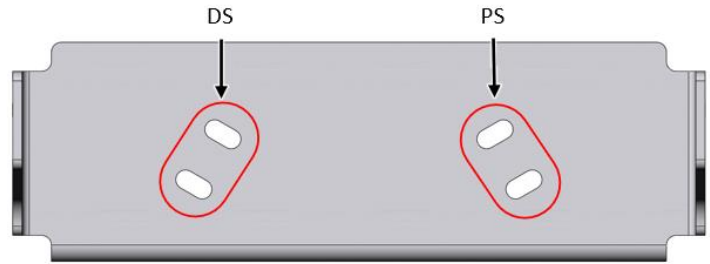
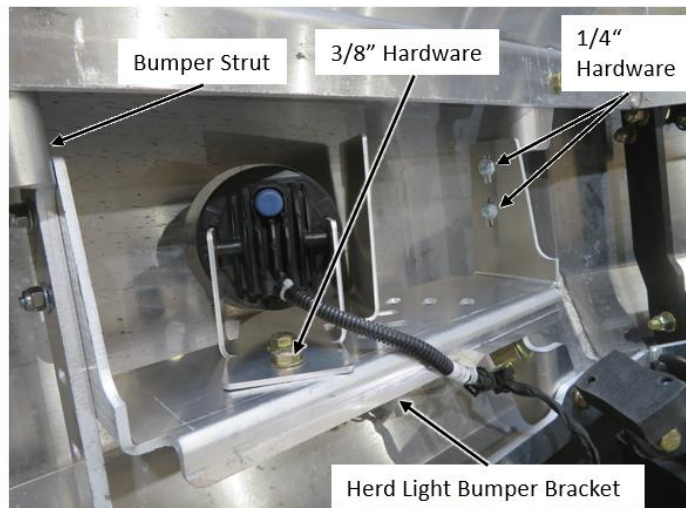

Figure 4b:
Figure 4c:
2. Mount the OEM light – Herd Light Shroud assembly to the Herd Light Bumper bracket's specific holes as shown in Figure 4b. Fasten loosely using the provided 3/8" hardware, see Figure 4c.